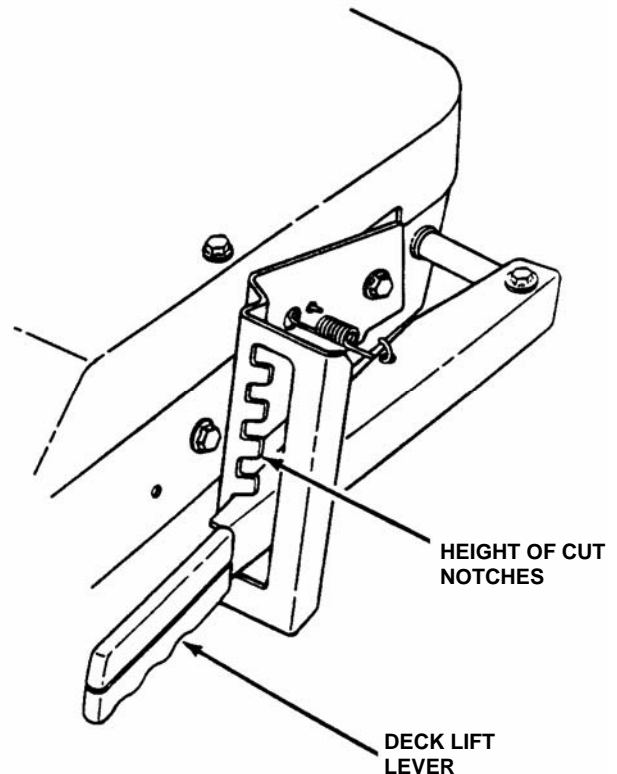

FIGURE 2.18
1. Adjust cutting height as desired to any one of five positions using deck lift lever. Move deck lift lever up or down to desired cutting height and then move over to secure in the height of cut notch. See Figure 2.18.